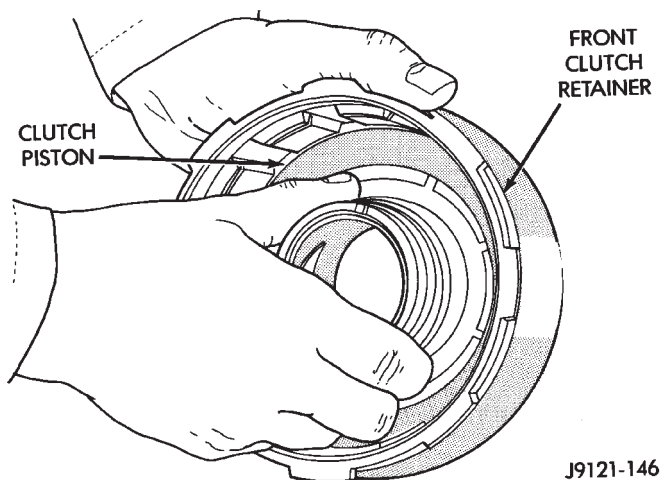

Fig. 133 Front Clutch Piston Installation
(4) Install clutch piston in retainer (Fig. 133). Use twisting motion to seat piston in bottom of retainer. A thin strip of plastic (about 0.020" thick), can be used to guide seals into place if necessary.